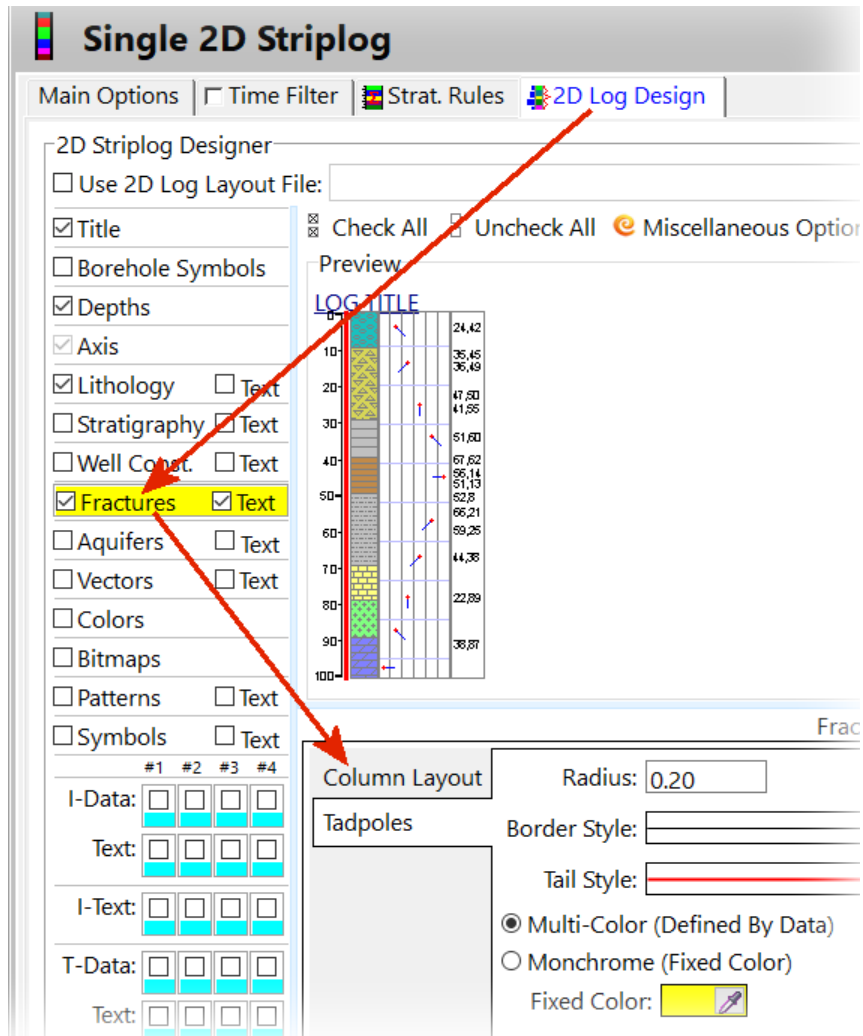

Figure 3
- Select *2D Log Design* tab at the top of the *Single 2D Striplog* menu (Figure 3), adjust the *Fractures* settings based on your preferences, and click on the Continue button.